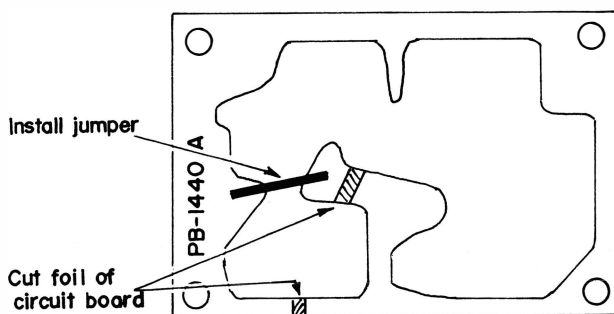

Figure 1
- (1) Refer to Fig. 1 , and cut the foil on the VFO UNIT, PB-1440A, at the two points shown. Install the jumper wire shown in the drawing.